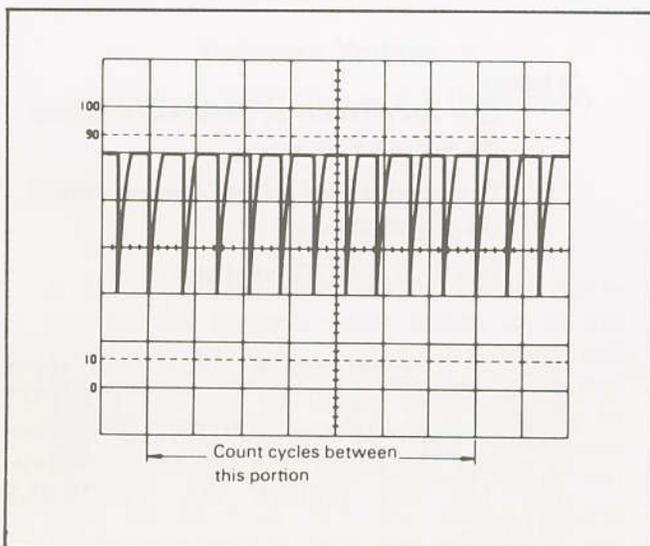

Fig. 9. Alternate Method of Frequency Measurement.
(Refer to Fig. 9)
2. Count the number of cycles of waveform between a chosen set of vertical graduation lines (see Fig. 9).
For the example shown in Fig. 9, there are 10 cycles within 7 divisions. If the SWEEP TIME/DIV is 5 μs and X10 MAG is not used, the frequency is calculated as follows: